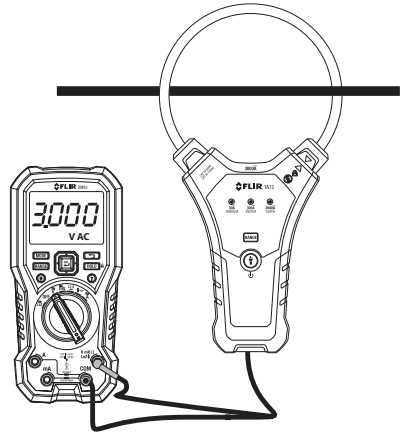

Fig. 5-1 Connect to DMM
2. Connect the Clamp Adaptor to the DMM input jacks using the supplied banana plugs (Fig. 5-1).